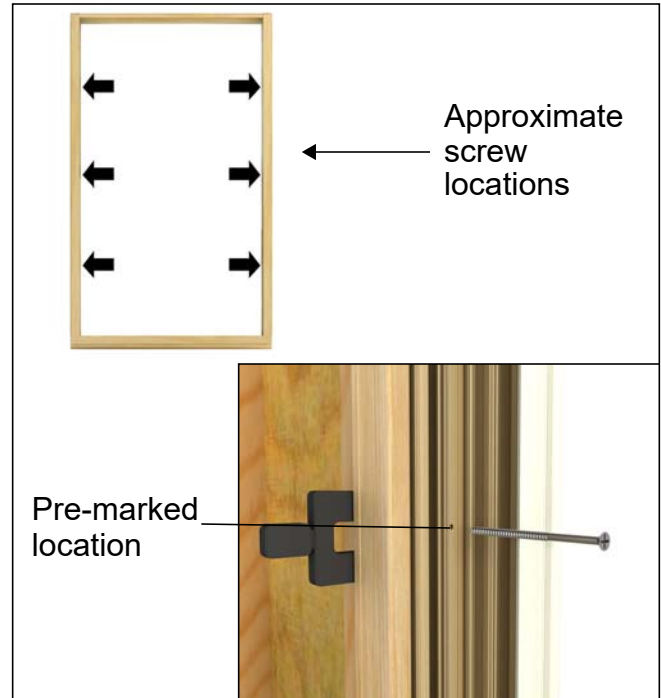

Figure 6
2. Center the window in the opening. Jambs need to be straight and level. Apply #8 X 3" screws until snug through the pre-marked holes, do not over tighten, to permanently secure the unit to the framing members. See figure 6. Do not apply screws to large jamb receiver locating hole.